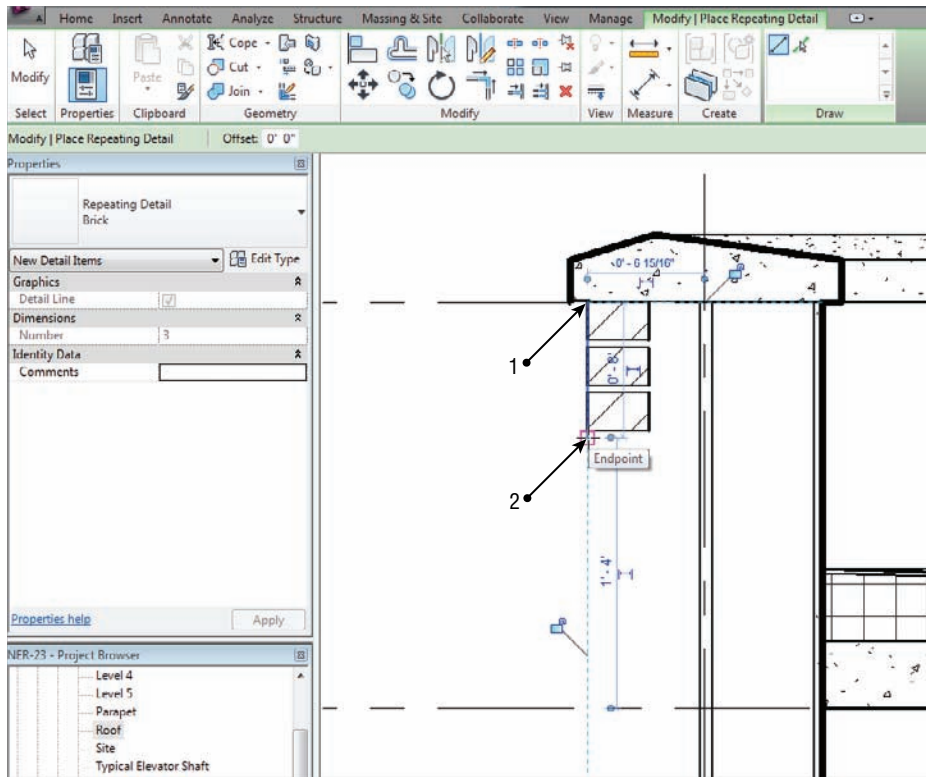

FIGURE 12.11 Adding the repeating detail based on the points shown
2. In the Properties dialog, choose Repeating Detail : Brick from the Type Selector, as shown in Figure 12.11.
3. Pick the point labeled 1 in Figure 12.11.
5. The brick is facing the wrong side. Press the spacebar to flip the brick into the wall (see Figure 12.11).